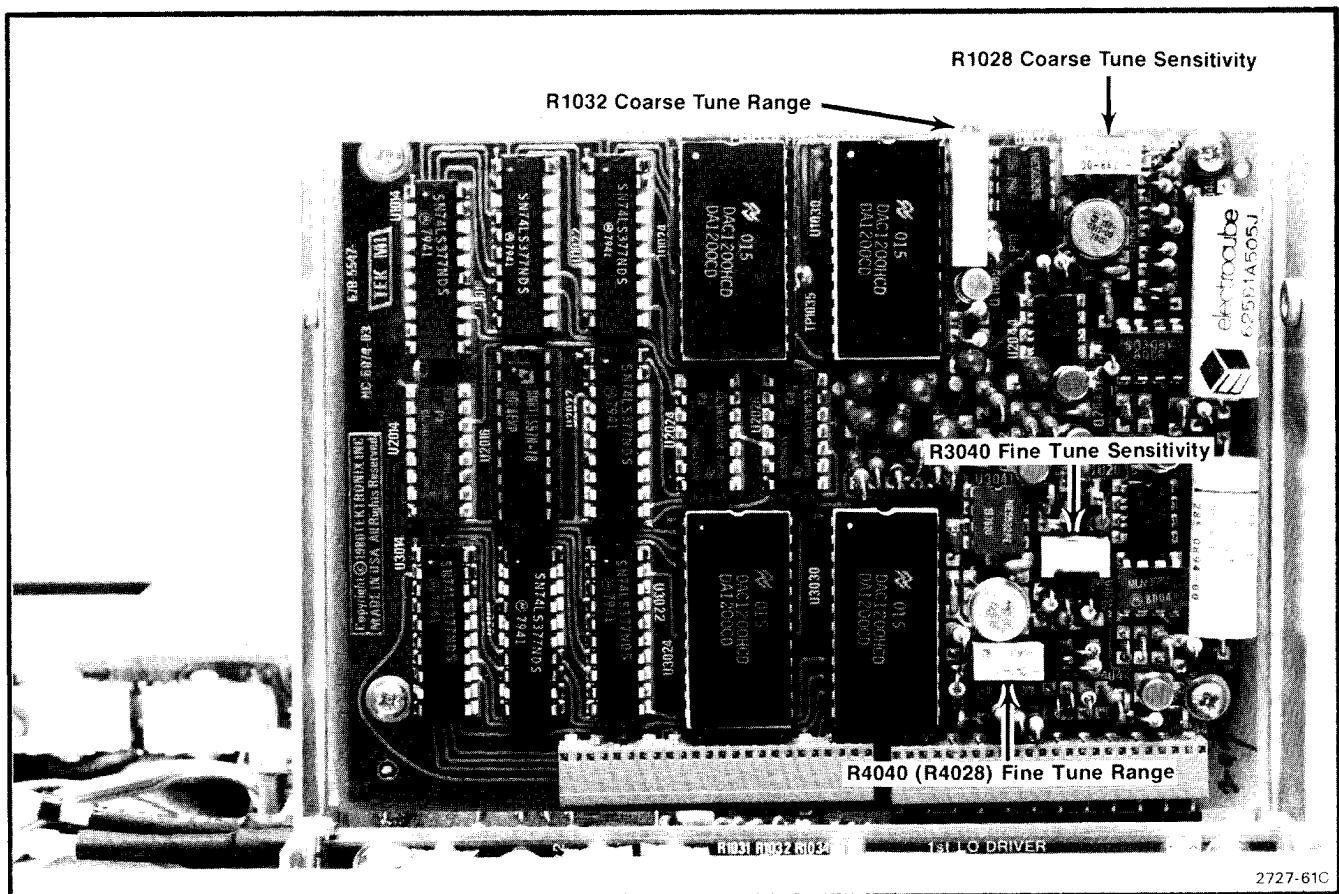

Fig. 3-33. Center Frequency Control adjustment locations.
- 1) On the Center Frequency Control circuit board, center the Fine Tune Range, R4040, and the Fine Tune Sensitivity, R3040, adjustments (see Fig. 3-33).
4) Adjust Coarse Tune Sensitivity R1028 (Fig. 3-33) on the Center Frequency Control board so that, on alternate sweeps, the signals align horizontally with each other.